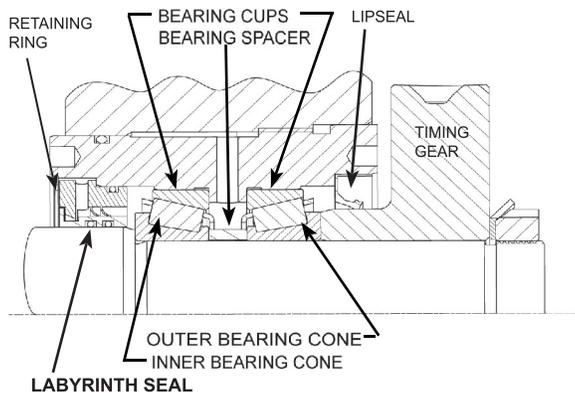

FIGURE 8
1. Remove the retaining ring. See Figure 8.
- 9.Refer now to Figure 8 on page 8. The bearing housing should already be assembled; if not see BEARING HOUSING ASSEMBLY. Install the O-rings onto the bearing housings; apply a lubricant to the O-ring to ease installation. Pack the bearings with a heavy-duty multi-purpose grease. Thread the bearing housing into the bracket on the lower shaft. Repeat for the upper bearing housing. Rotate each bearing housing assembly clockwise until the lobes hit the pump head, then back them off ¼ turn.